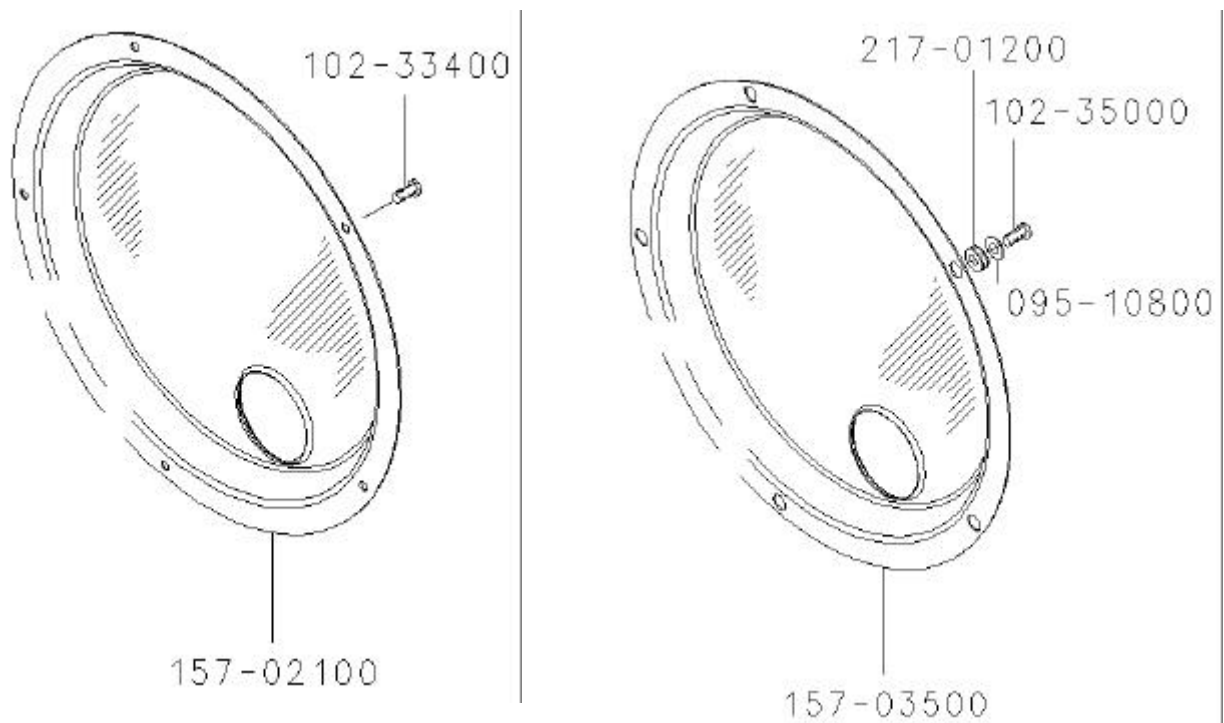

Figure 2 – Before (left) and After (right)
- 3) All 40-424 wheels verified as being equipped with the P/N 157-03500 or P/N 157-02100 with $\varnothing.313$ mounting holes and fairing mounting hardware per kit SB7075-1 may be returned to service (ref. Figure 2 (after)).
- 4) For aircraft that are identified as being equipped with the 40-424 Main Wheel in the pre-SB7075 configuration (ref. Figure 2 (before)), remove the five fasteners which attach the fairing to the outboard wheel half, and measure wheel assembly fairing attachment fastener through holes (ref. Figure 1).
- 7) Install Five Grommets (P/N 217-01200) Into Wheel Cover (P/N 157-03500 or P/N 157-02100 with $\varnothing.313$ mounting holes). Apply MIL-T-83483 anti-seize to end of fasteners and threads of fasteners (102-35000). Install one washer (095-10800) onto each fastener (102-35000) (ref. Figure 2). **Caution: The fairing attachment fastener length is designed such that the fastener will bottom in the wheel before fully compressing the grommet.** Torque fastener (102-35000) to 20-25 In.-Lbs.